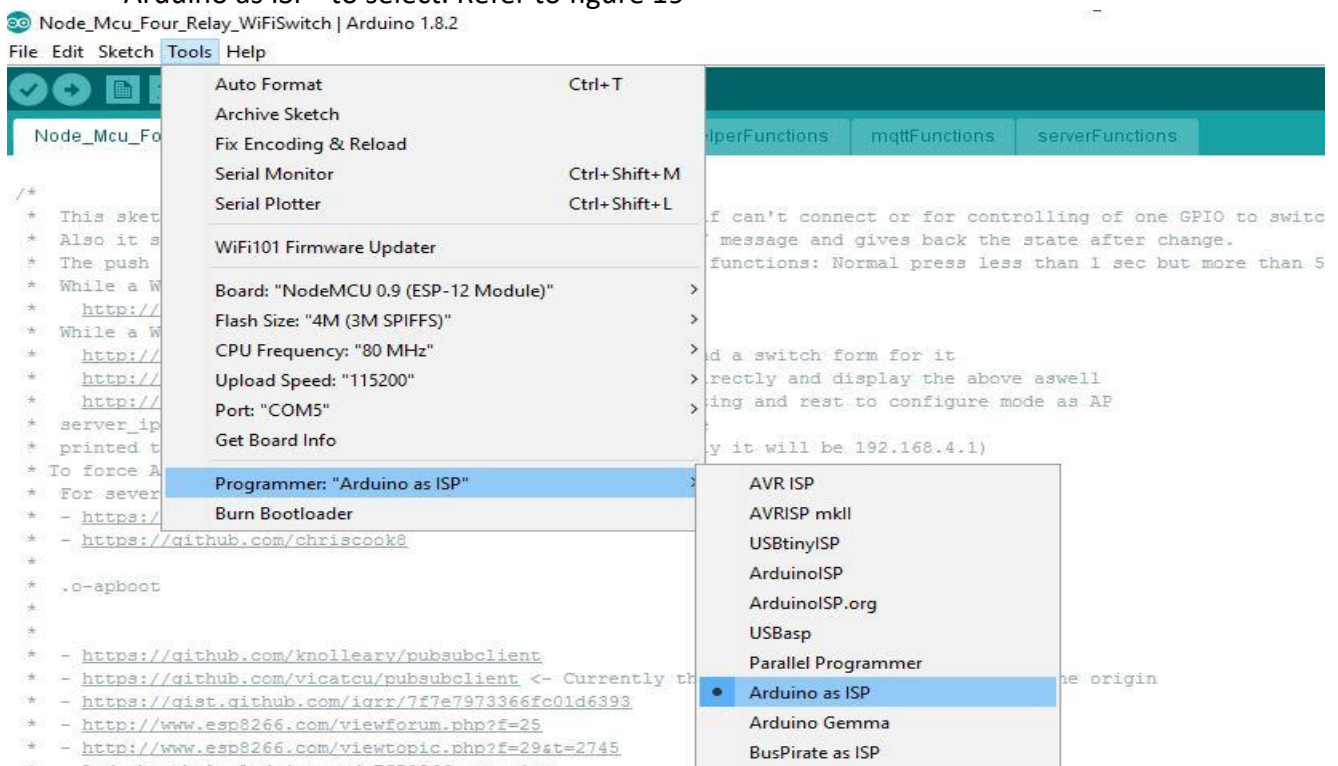

Figure 20: IDE Selection
6. Click on tools tab, move mouse pointer to "Port: "COMx", under this click on "COMx" to select. ("x" refers to port number available in your computer) Refer to figure 20.
7. Run the program. Refer to Figure 20.